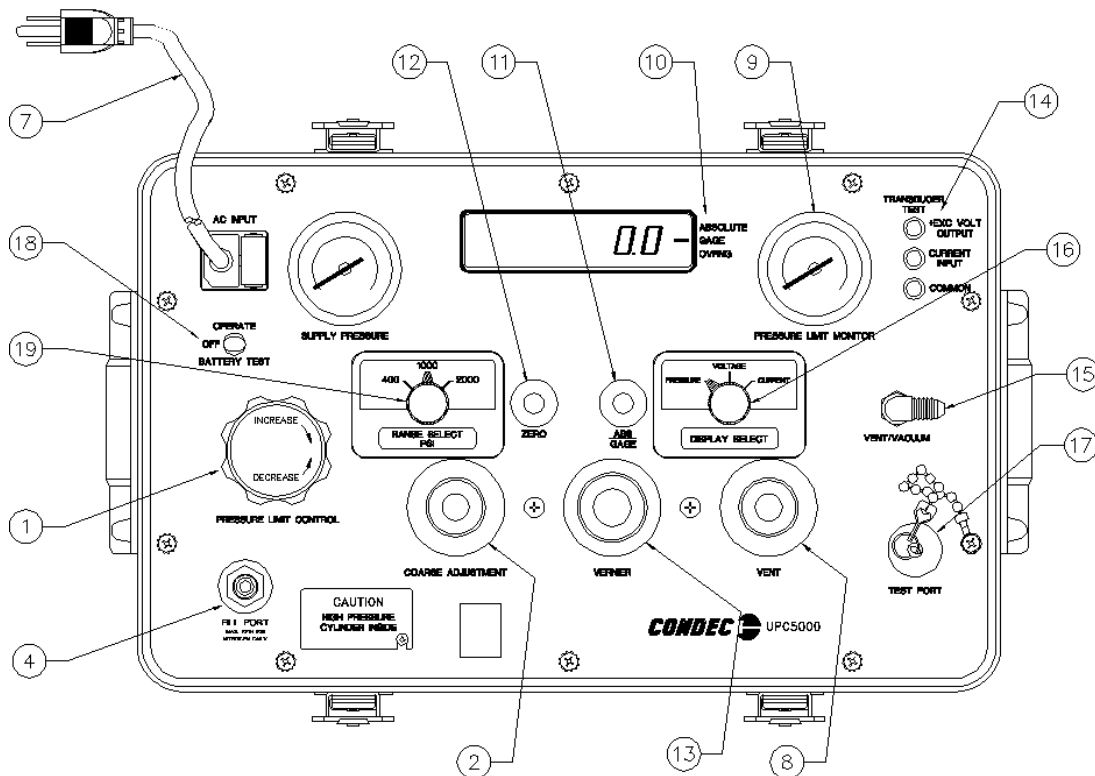

Figure 2-2. Initial Setup Procedure
To prepare for actual calibration usage, see Figure 2-2 below and proceed as follows:
NOTE: Connector pin designations are for reference only, and are no longer a connector on newer units. See Figure 2-2 on page 4 (14).
- Check that the indicator on the right end of the display indicates desired mode (10). If not, momentarily depress the ABS/GAGE switch (11) to obtain mode.